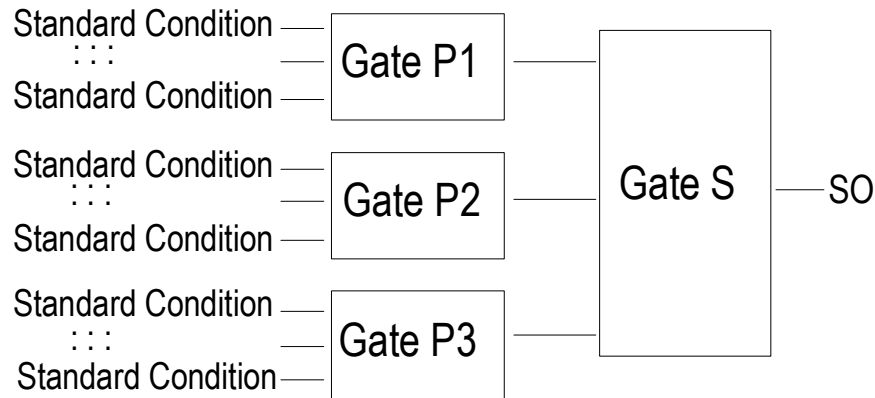

Figure 45 Transition logic diagram.
- As shown in the transition logic diagram in Figure 45: